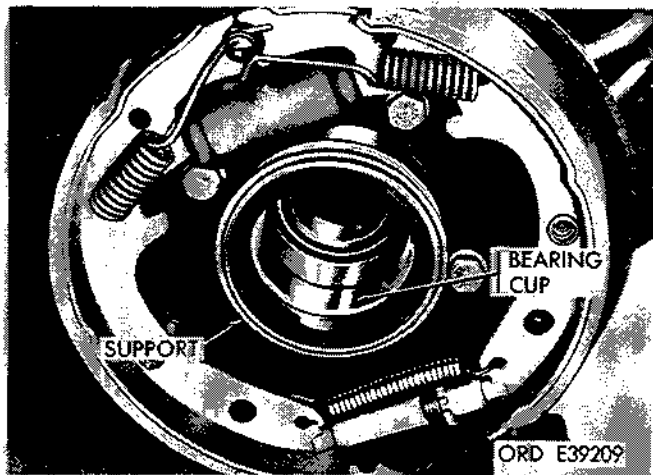

Figure 2-318. Remove bearing cup from support.
- (1) Remove spindle (para 2-138) and wheel drive flange (para 2-139).
- (2) Pry outer seal and retainer from support. Using brass drift loosen bearing cup and remove from support (fig. 2-318).